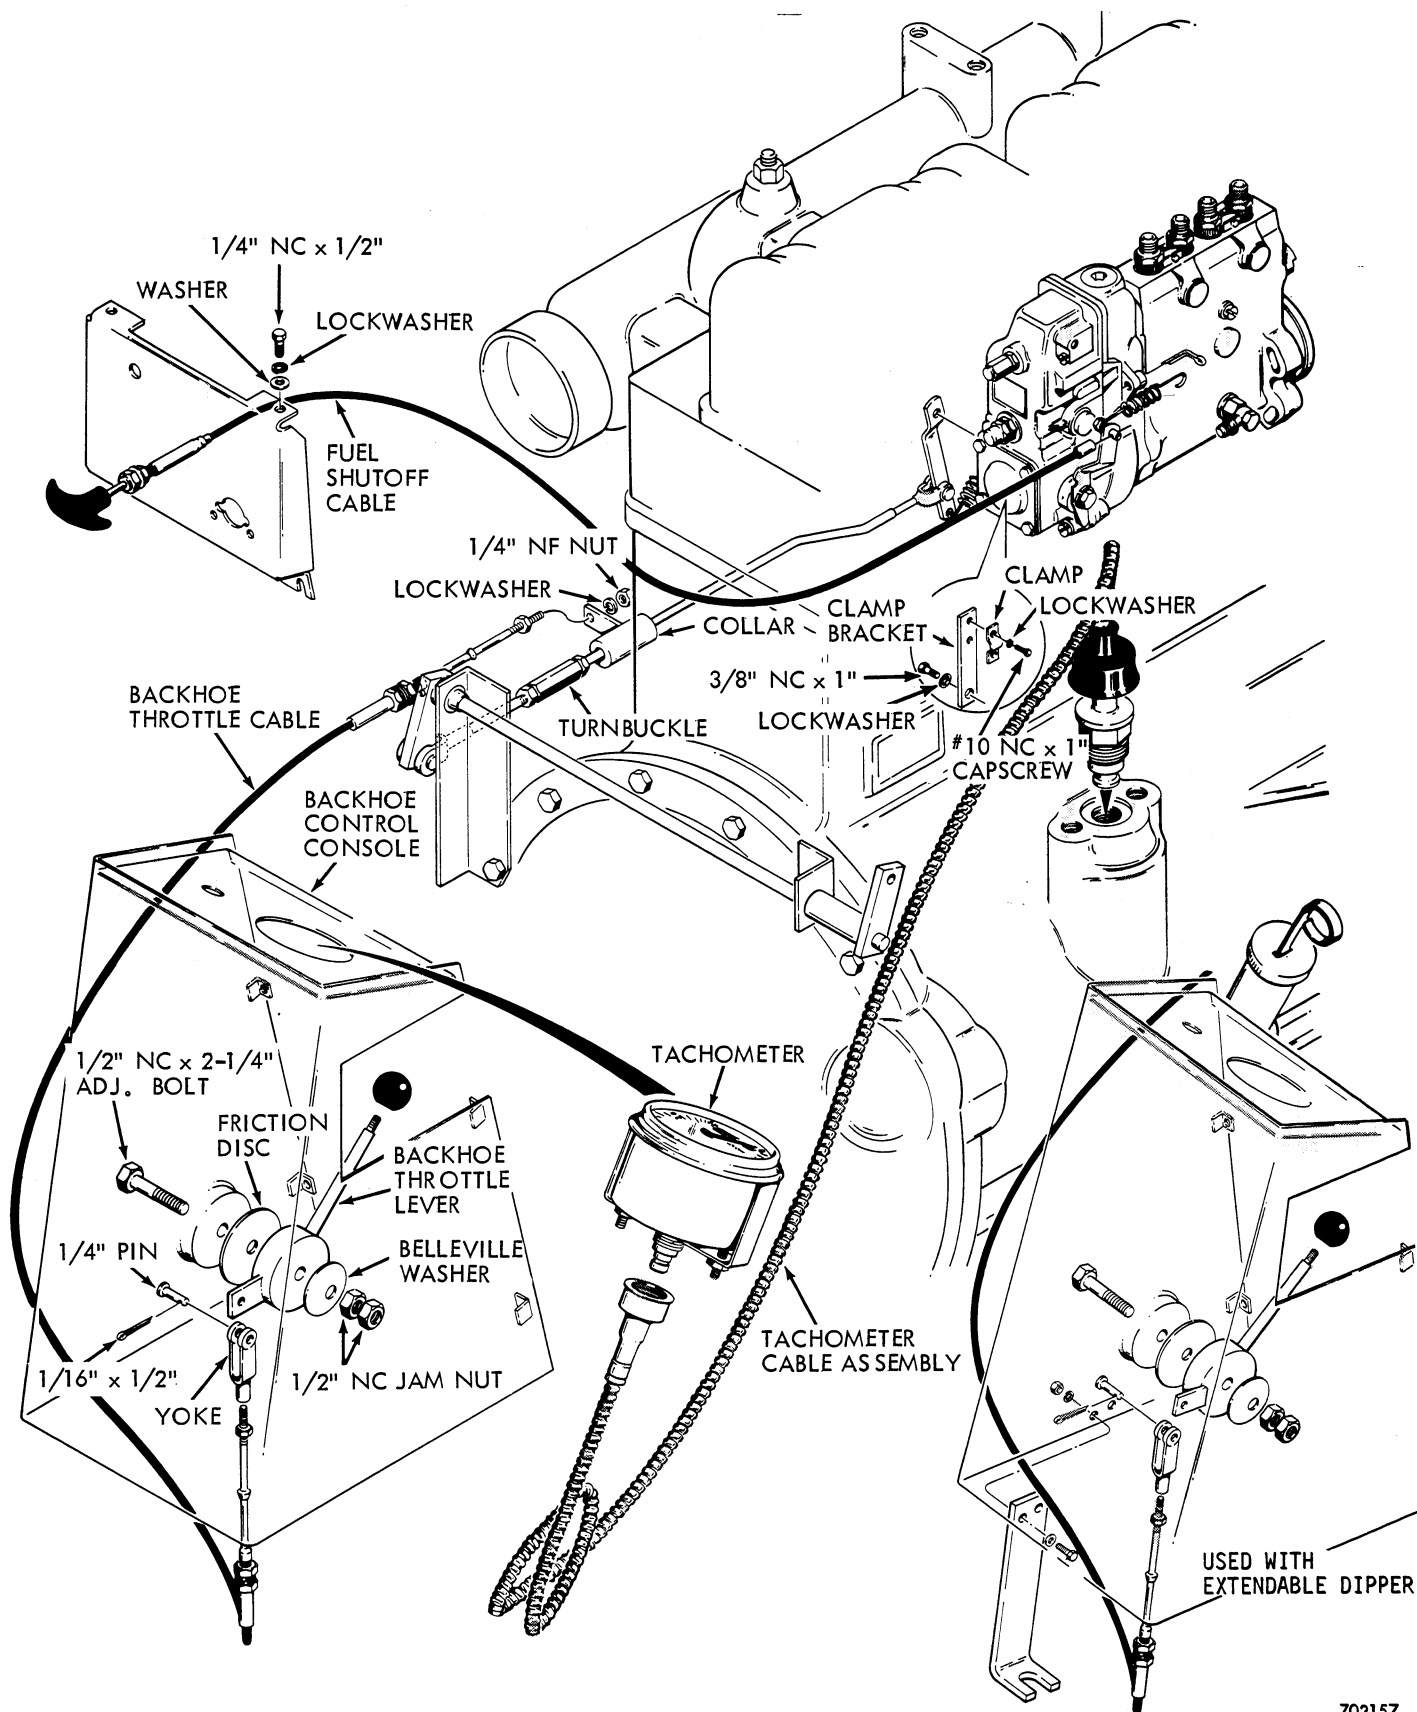

Figure 3 - Exploded View of Backhoe Throttle Linkage
- d. Position backhoe throttle lever for low idle speed. Adjust the cable stop, Figure 3, to within $1/4$ " of the turnbuckle on the throttle rod.
- e. Adjust the "feel" of the backhoe throttle lever by turning the adjusting bolt on the control console, Figure 3.